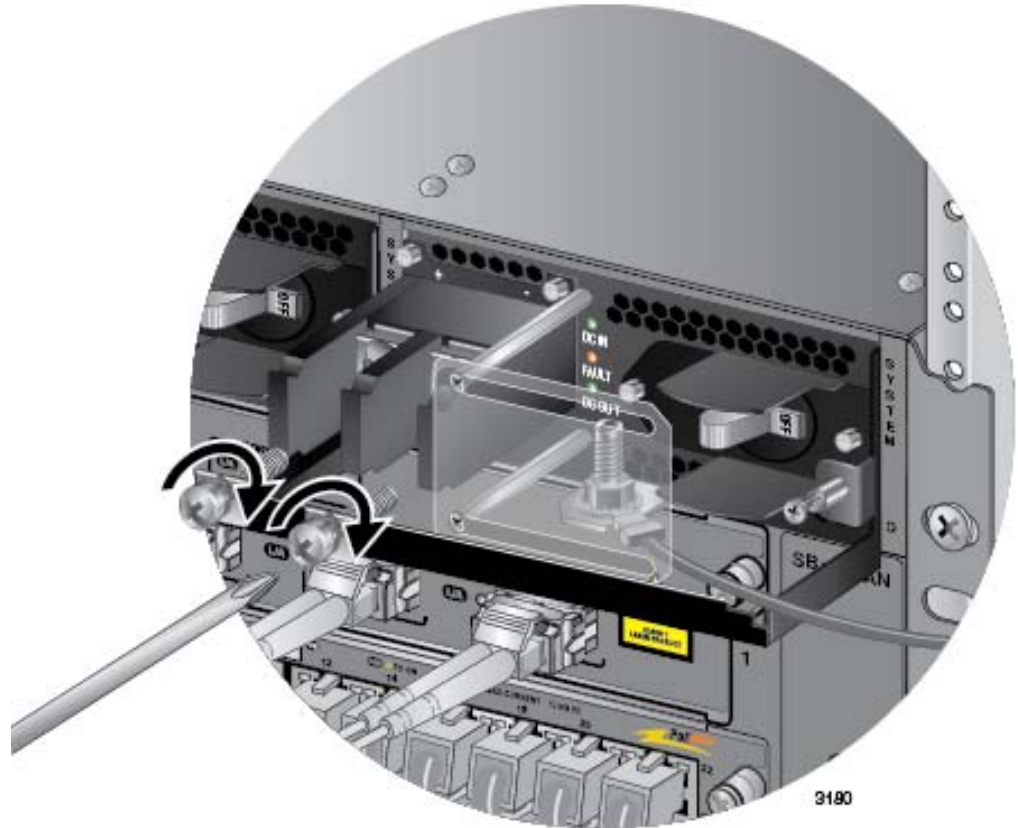

Figure 176. Reinstalling the Screws on the Positive and Negative Terminals
7. Reinstall the two screws on the negative (-) and positive (+) terminals. Refer to Figure 176 on page 299.